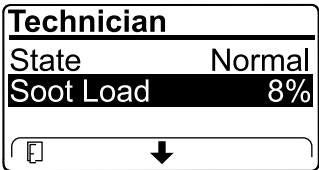

Figure 44
- View the soot load which is measured as the percentage of soot in the DPF(Figure 44); refer to the soot-load table.